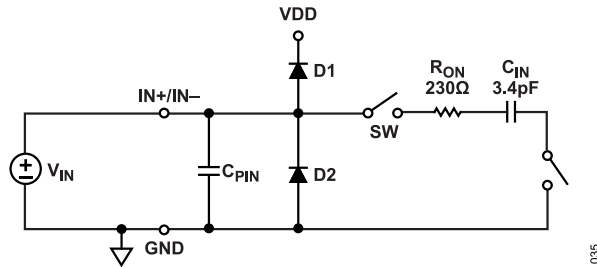

Figure 38. Equivalent Analog Input Circuit
Figure 38 shows an equivalent circuit for each of the AD4052/AD4058 analog inputs (IN+ and IN-). The analog inputs are modeled as a switched capacitive load. During the acquisition phase, the sampling switch (SW) connects each input pin to the 3.4 pF sampling capacitor ( $C_{IN}$ ) in series with the 230  $\Omega$  switch on resistance ( $R_{ON}$ ). During the conversion phase, SW disconnects to sample the voltages on the IN+ and IN- pins onto the sampling capacitors. D1 and D2 represent the ESD diodes from the IN+ and IN- pins to the VDD supply and GND, respectively.  $C_{PIN}$  represents the pin capacitance of each input pin to GND and is typically 2 pF.